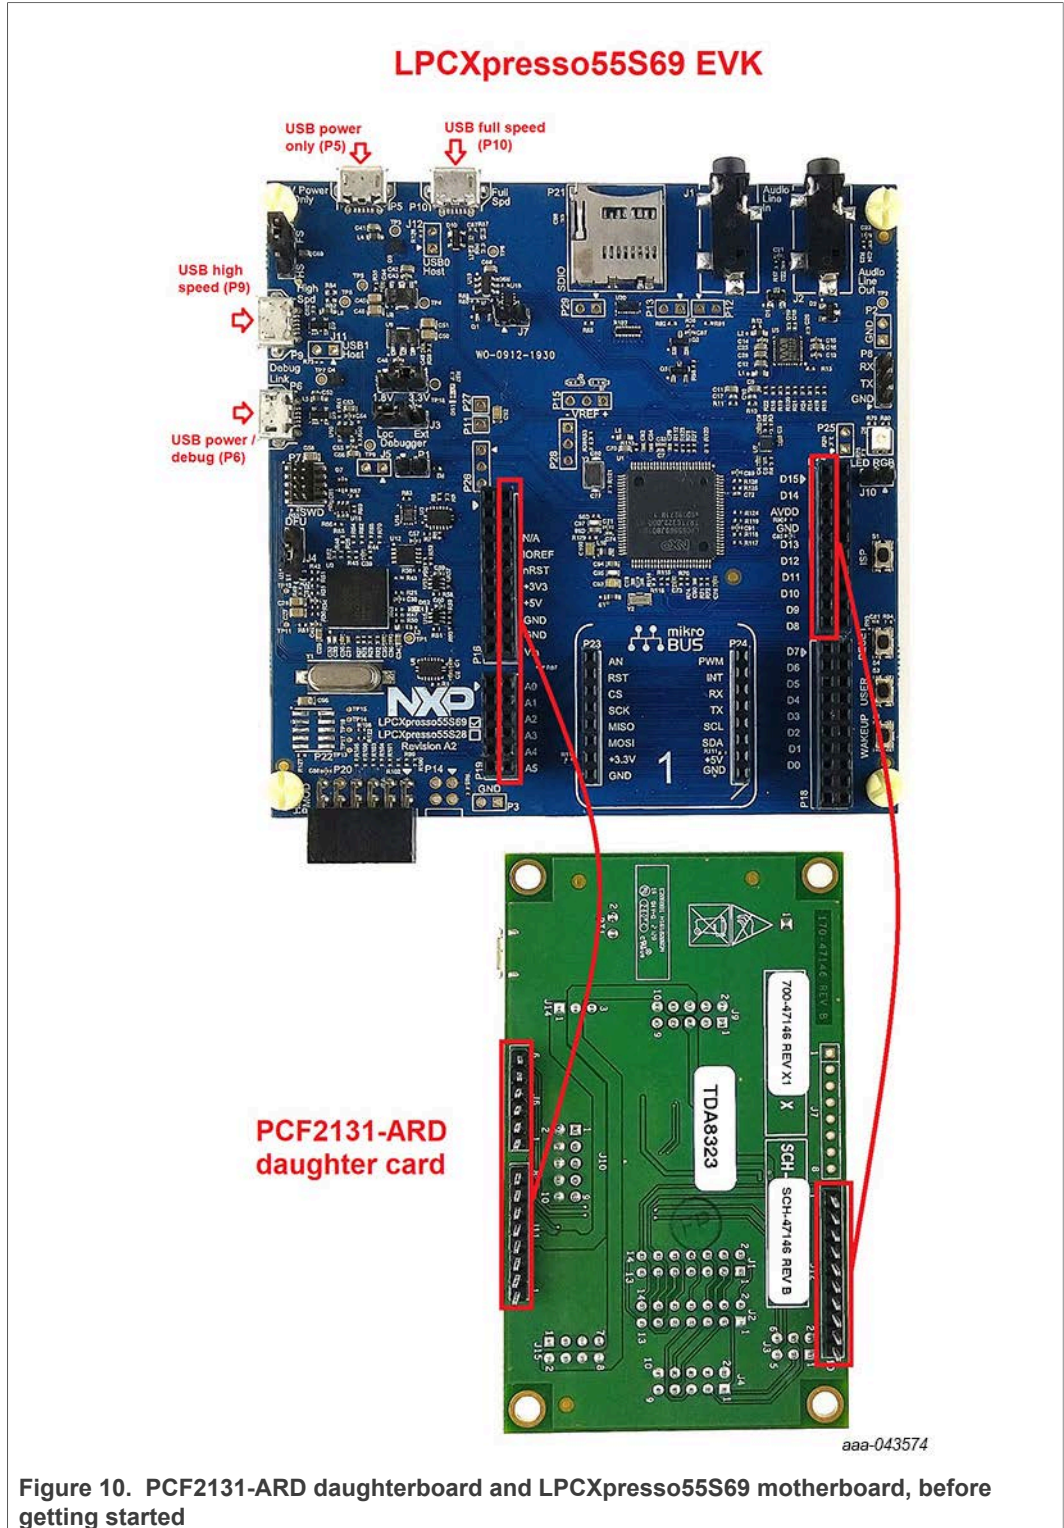

Figure 10. PCF2131-ARD daughterboard and LPCXpresso55S69 motherboard, before getting started
Figure 10 shows the required hardware for operation of the PCF2131-ARD and LPCXpresso55S69 EVK board. This configuration consists of:
- Insert the PCF2131-ARD daughtercard to P16 – P19 connectors located on LPCXpresso55S69 development board (see the marked pins of P16 – P19, Figure 10)